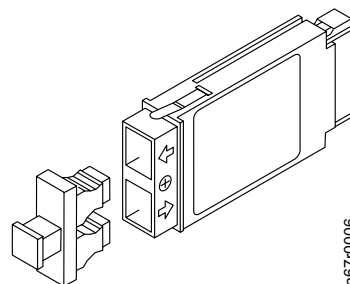

Figure 3. Gigabit interface converter (GBIC) module with dust protector
Two Fibre Channel ports are available on the gateway. Each port is equipped with a gigabit interface converter (GBIC) module that lets you connect a fiber cable. The GBIC can transmit data at up to 2 Gbits per second by using a short-wave, multimode, subscriber connector (SC). Figure 3 shows the GBIC module. The gateway also has four LVD Ultra2 SCSI ports to which you can attach tape